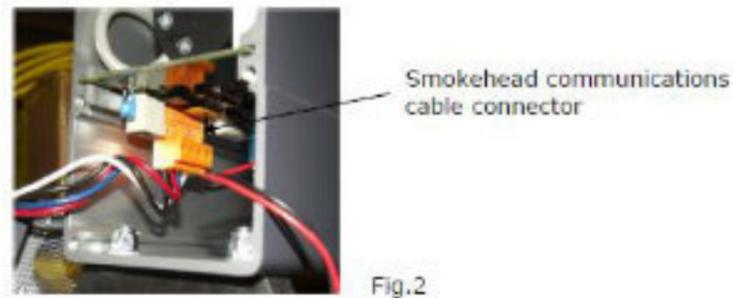

Fig.2
- If you are working on a DX.260-1 cabled smokehead, carefully disconnect the 4 pin communications cable from the Printed Circuit Board (PCB) see Fig. 2 for location